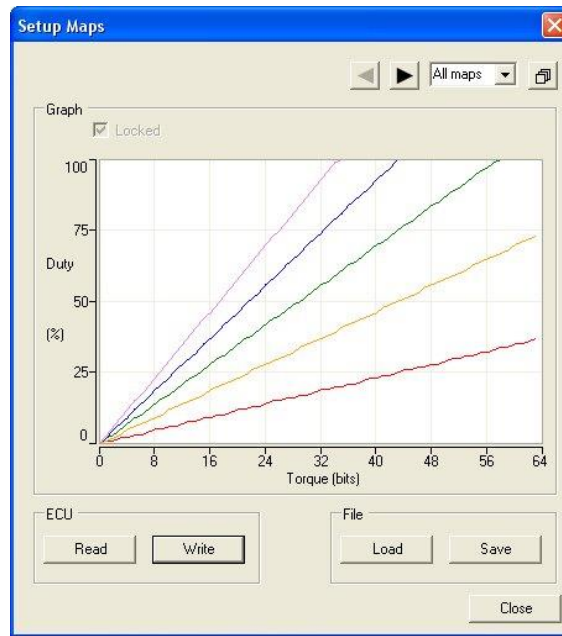

Figure 9 - Setup Maps Dialog (All Maps)
- Once map data is available the Setup Maps dialog displays all five maps on the same set of axes (Figure 9).